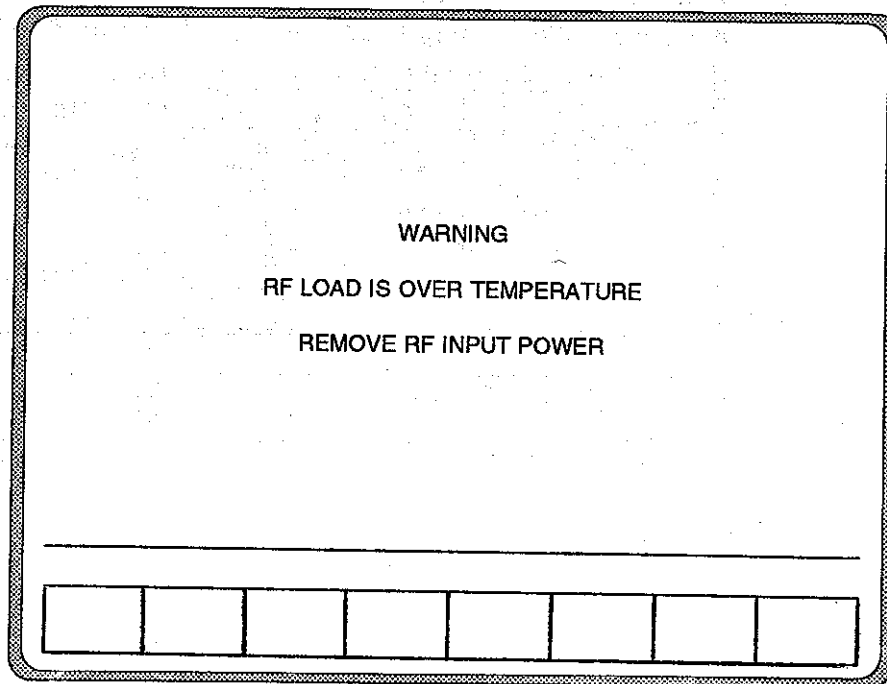

Figure 3-3. RF Over Temperature Warning Message
- A continuous audible warning tone along with an overwrite of the screen with a warning message will be presented for RF Over Temperature (figure 3-3). This condition may occur when the intermittent power rating of the 125 watt internal load is exceeded. Both the display and the warning tone remain on and all operator input is ignored until the condition is corrected. The Analyzer then resumes normal operation.